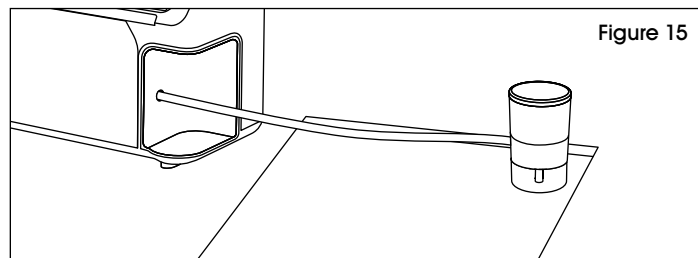

Figure 15
- Place end of handheld sealer over zipper bag valve. (See Figure 15)